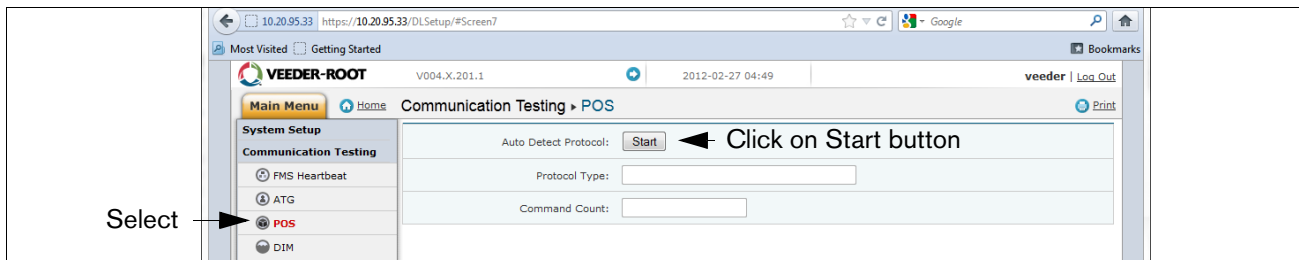

Figure 26. POS Protocol Type Query
21. If the DL4 is connected in the Pass-Thru mode (Scenario 2) and is accepting commands from the POS and passing them through to the ATG, click on "POS" to detect the POS protocol. Click the "START" button next to "Auto Detect Protocol" and wait for the Protocol Type to appear (see example in Figure 26).